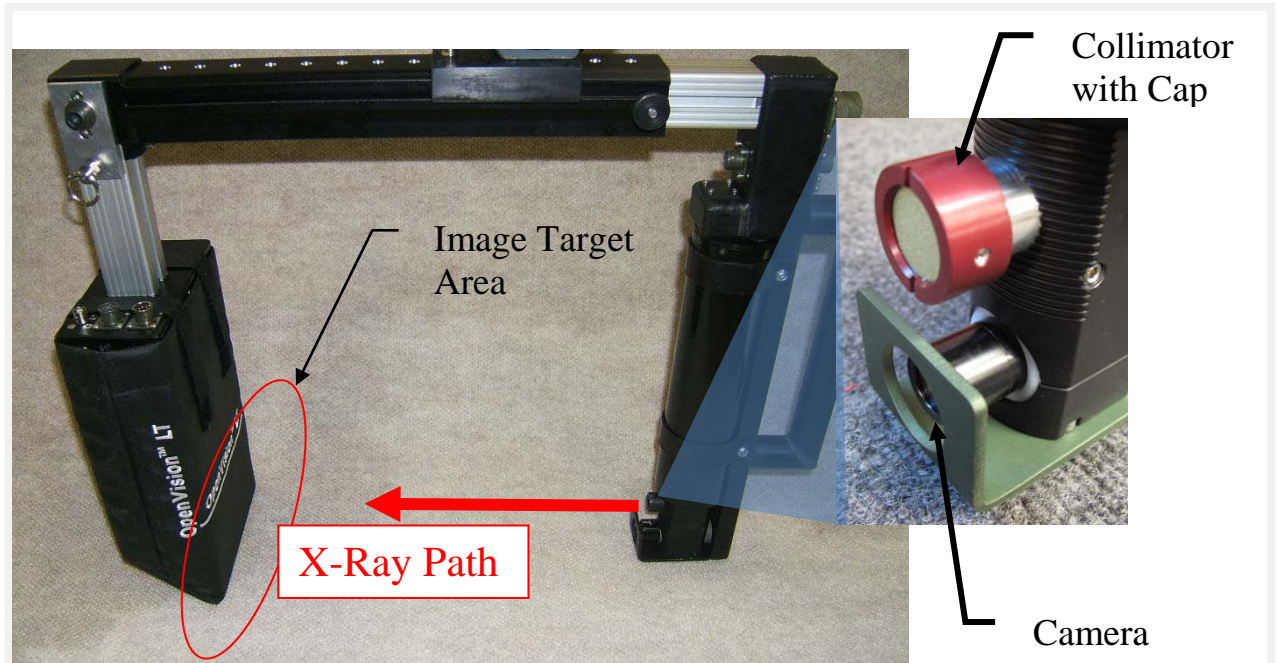

Figure 3. Xray Source and Imager Target
An operator must NEVER expose themselves to the direct beam of the X-ray port. See Figure 1 and Figure 3.
I) Visually confirm that the lead collimator is in place at the X-ray tube port. See Figure 3.